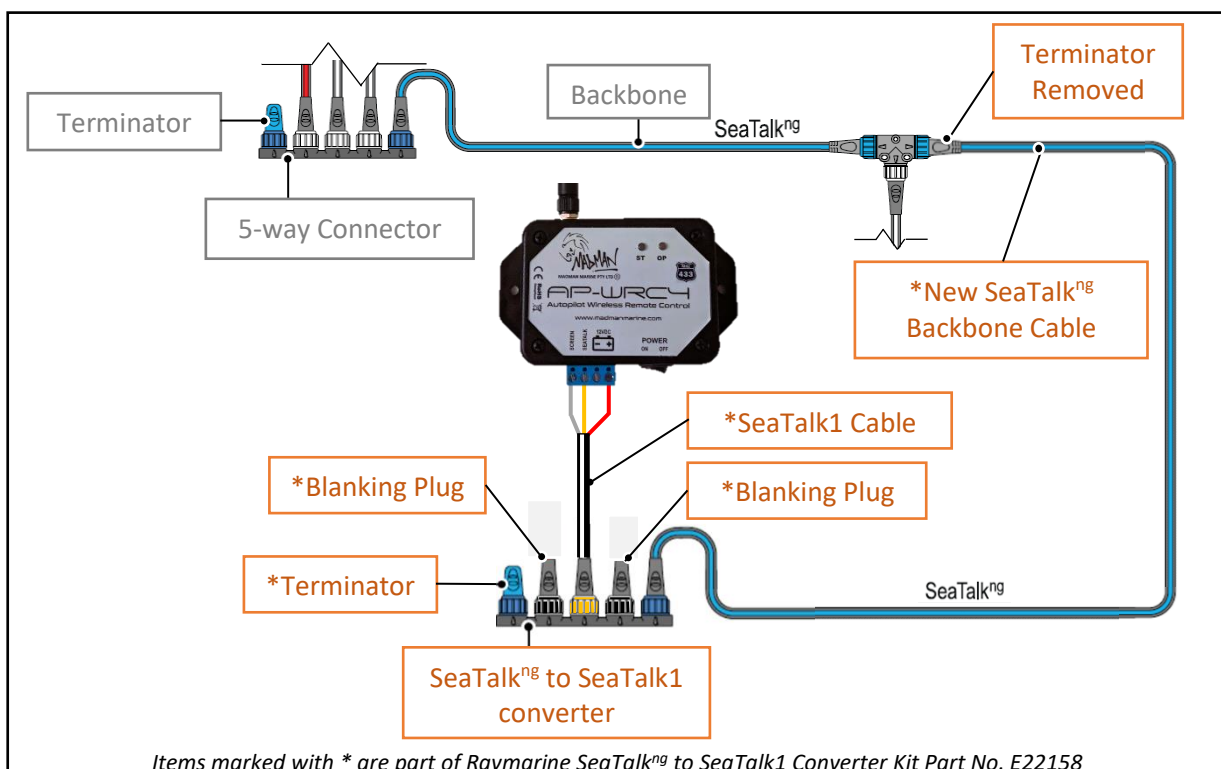

Figure 3 - AP-WRC4 Installation
- Install the terminator that was removed from the 'Tee' connector on one of the blue ports of the SeaTalk1 to SeaTalk^{ng} converter. Refer to Figure 3 for this and subsequent connections.